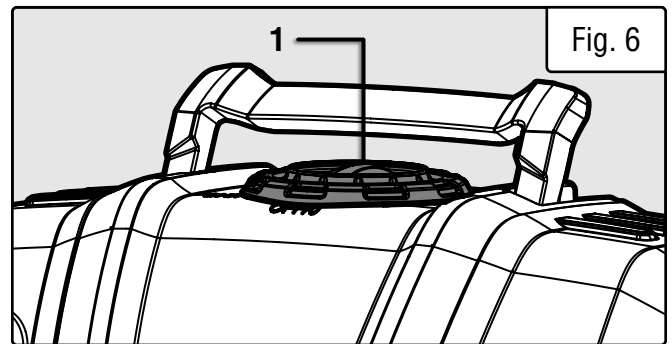

Fig. 6
1. Make sure that the power switch (Fig. 6 - 1) is switched to the OFF position before plugging the pressure washer into the power source.
6. Turn the power switch (Fig. 6 - 1) ON.